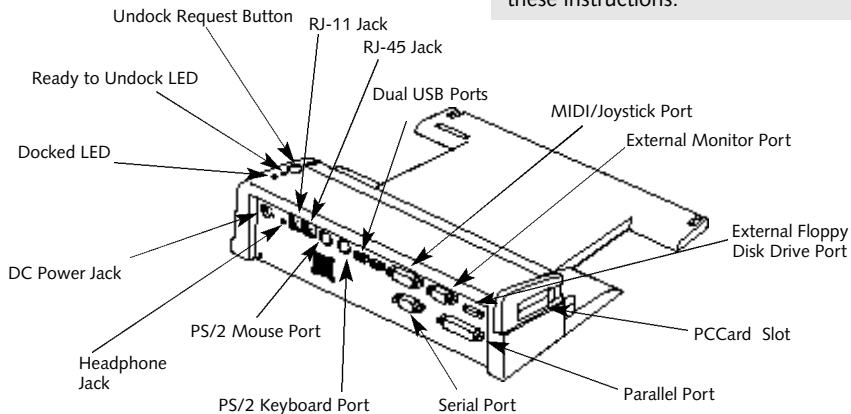
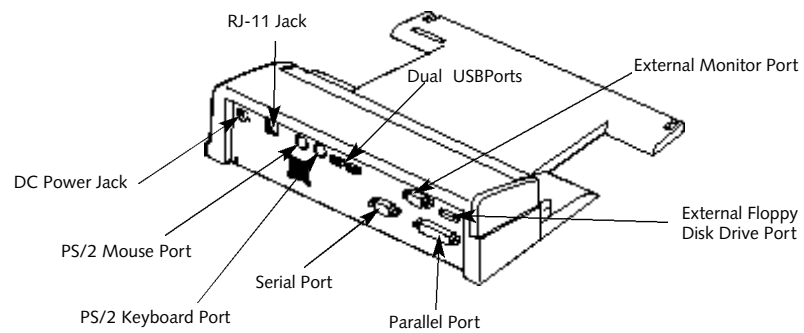

Figure 4-14 LANdock Rear View
Figure 4-17 Port Replicator Rear View
Connect devices to your LANdock or Port Replicator in exactly the same way you would your notebook. Figure 4-14 shows the location of LANdock ports and jacks. Figure 4-17 shows the location of the Port Replicator ports and jacks. Remember that on the LANdock and the Port Replicator there are separate ports for mouse and keyboard. You must use the correct one.
3. **Plug the mouse into the PS/2 Mouse port and the external keyboard or numeric key pad into the PS/2 Keyboard port. (Figure 4-14 on page 132 and Figure 4-17 on page 136.)**